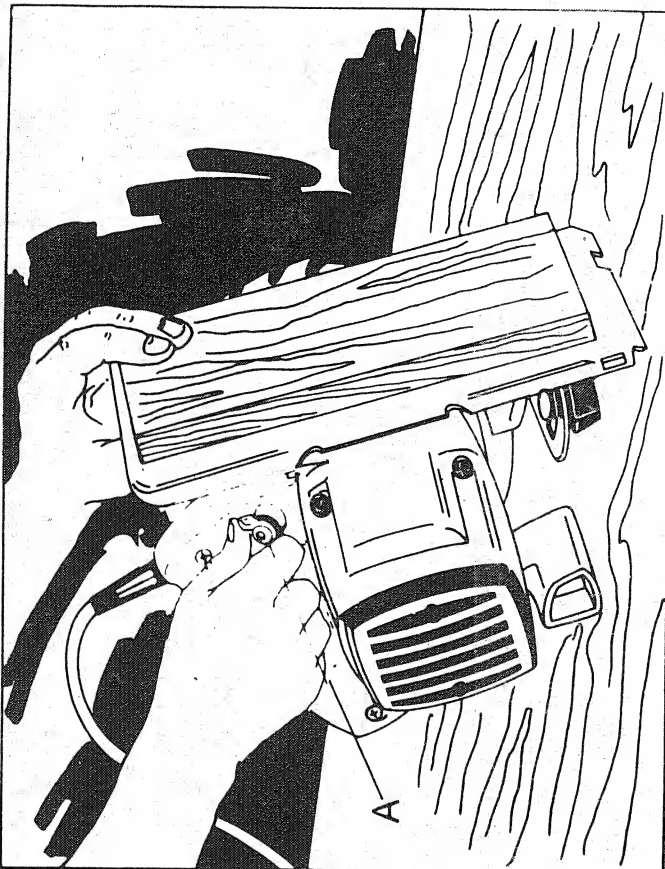

FIGURE 3
2. Place the saw in the position shown in Figure 3 and loosen depth adjustment knob "A".